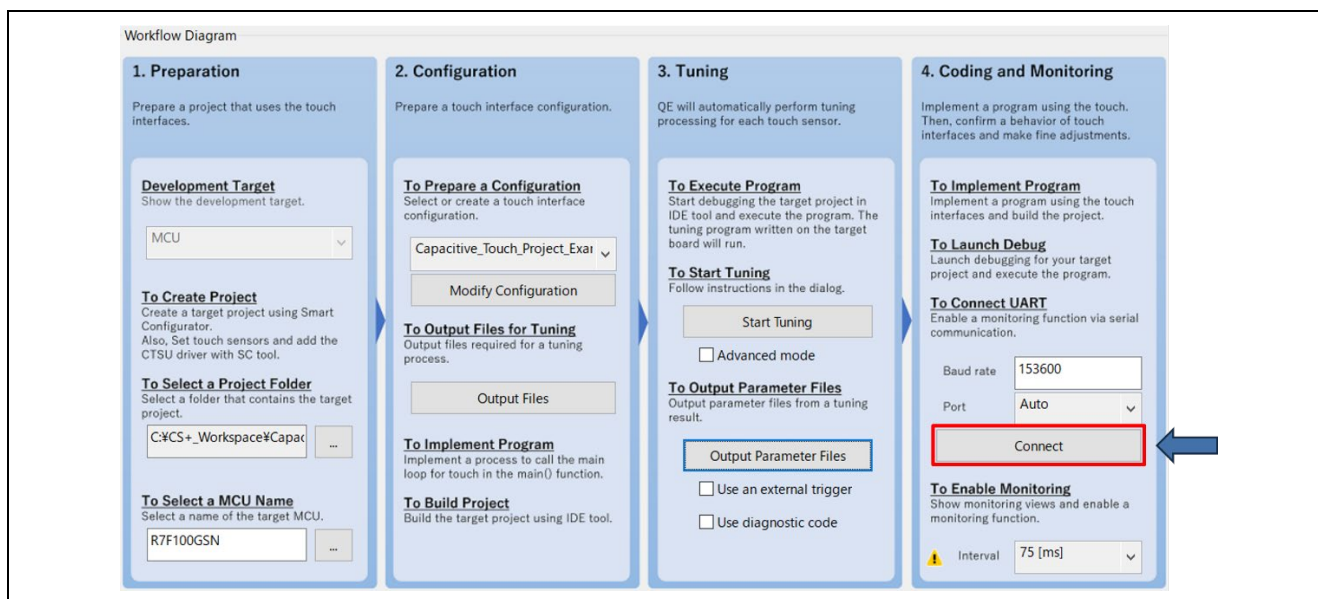

Figure 8-40 Serial Connection
- Click on [Connect] for serial connection with the target board. [Connect] shown in the red frame in Figure 8-40 will change to [Disconnect].